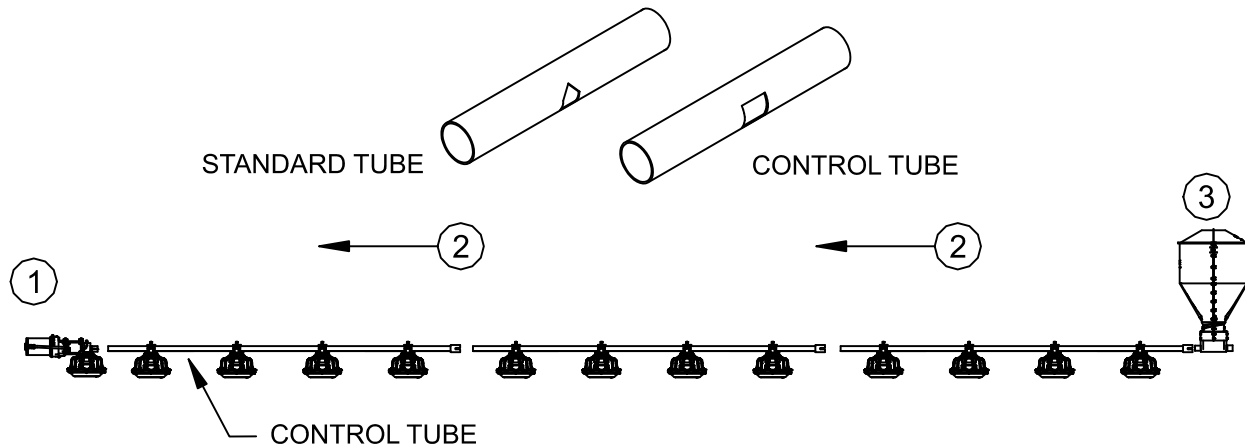

Figure 35. Attaching Feeder Tube Assemblies
1. The actuator, auger tubes and feeders may be laid out end to end in approximately the final location of the line. **The belled end of each tube should be toward the (3) Hopper end of the line. See Figure 35.** Be sure to have the correct number of tubes and the actuator is in the center of the section to be controlled by an actuator. **Place the actuator between the tubes near a suspension drop.** All actuators must be installed in the same direction. One actuator handles up to 96 feeder pans with the actuator placed dividing the (96) pans approximately in half.
2. Connect the individual feeder tubes together by inserting the straight end of one tube as far as possible into the (2) belled end of the next tube. **The last Feeder Tube before the (1) End Control Pan or Mid Line Control pan must be a Control Tube.**